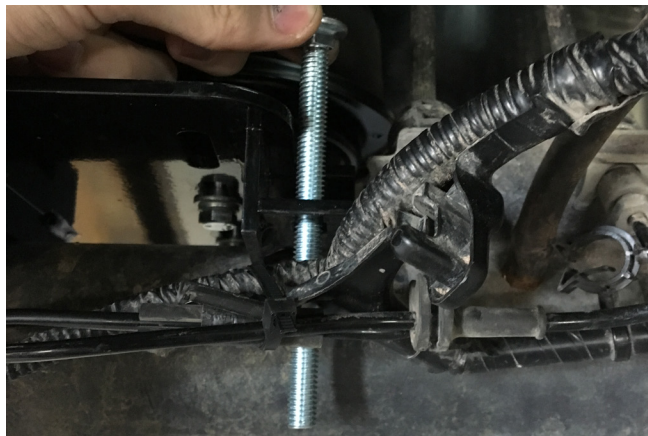
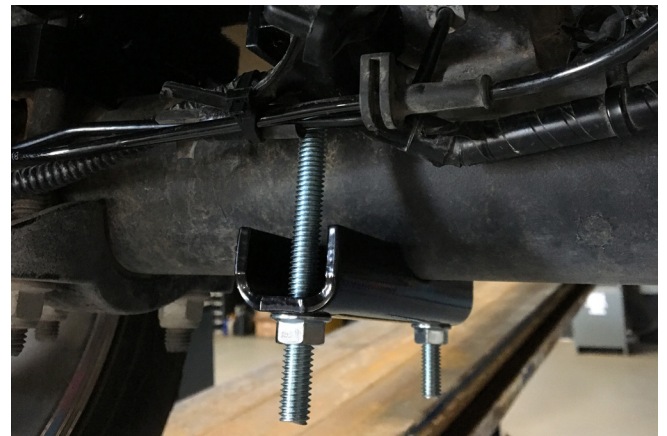

Fig. 23
Fig. 24
14. Install the remaining two carriage bolts onto the lower brackets (Fig. 23). Next, insert the clamp bars (A) over the carriage bolts with the serrated flange nuts (O) to attach the lower bracket assembly to the axle (Fig. 24). Torque to 16 lb.-ft. (22Nm).